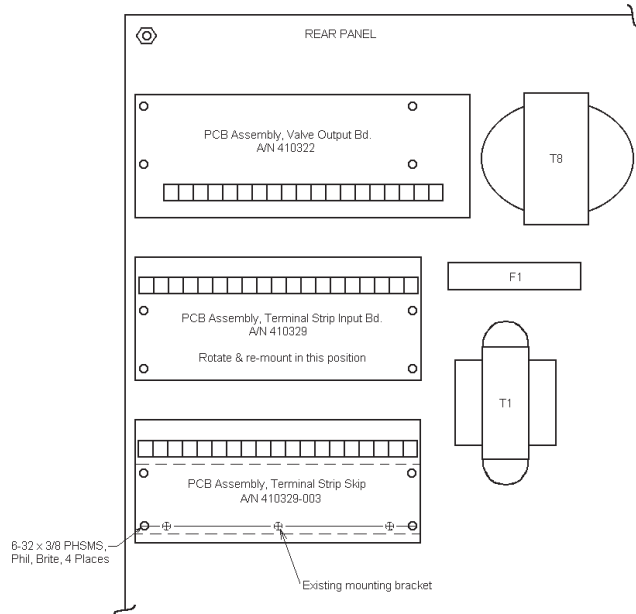

Figure 6. External TSS Mounting detail for “L”, “H”, “G” or “U” Cabinet
6. Add extra spacer (P/N 555031) to each existing spacer (4 places) to offset PCB 1" from panel. Mount External Terminal Strip Skip PCB (A/N 410329-003) to existing bracket (P/N 510236) using four (4) screws retained from S99 PCB. See Figure 6.